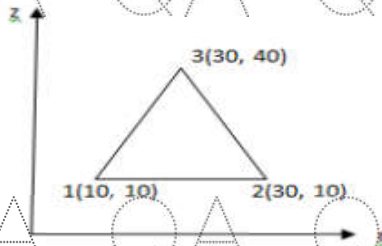

Figure 4
7. Nodal coordinates for an Axi-Symmetric element are given below figure 4. Evaluate Stiffness Matrix, $E = 2 \times 10^5 \text{ N/mm}^2$, $\nu = 0.25$. [10]